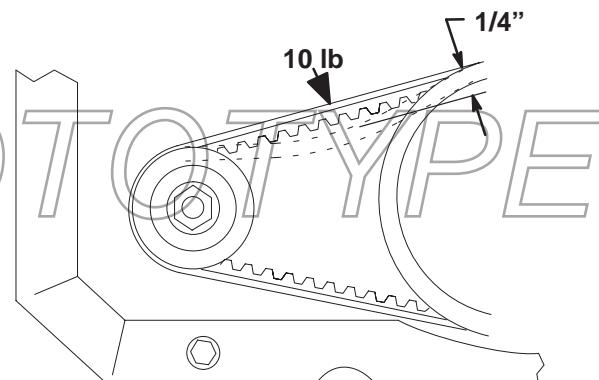

Figure 4
- Push the top of the alternator away from the drive pulley and tighten the bolt (M8 x 45 mm) in the adjustment slot when the top span of the belt flexes 1/4 inch when you apply 10 lb (4.5 kg) to the center of the span (Fig. 4).